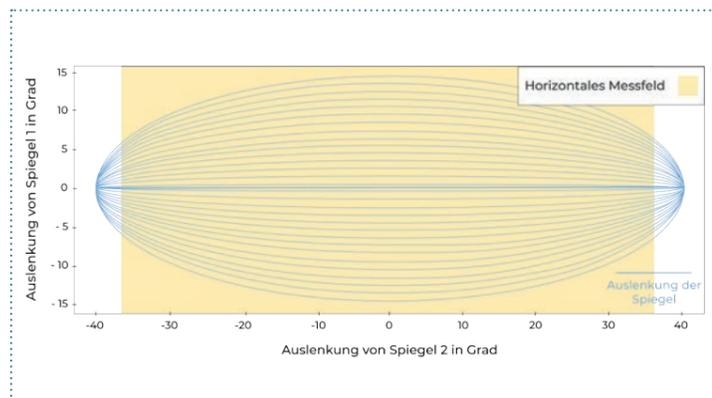

Fig. 1: Measurement field depending on the mirror movement. (Image source: Blickfeld)
The research group of Prof. Schütze from the Saarland University (UdS) was involved in the project in a second phase. The UdS uses methods based on artificial intelligence (AI) to extract information on damage, wear, or fault conditions from sensor signals. The challenge is in identifying the important patterns from the plethora of data. For this purpose, the UdS developed a machine learning toolbox that permits partly automated processing of training data for people from other subject areas and beginners as well, cf. Figure 1.
Figure 1: Toolbox schematic, adjusted by Dorst et al., "Metrology for the factory of the future: towards a case study in condition monitoring" in 2019 IEEE IP2MTC.